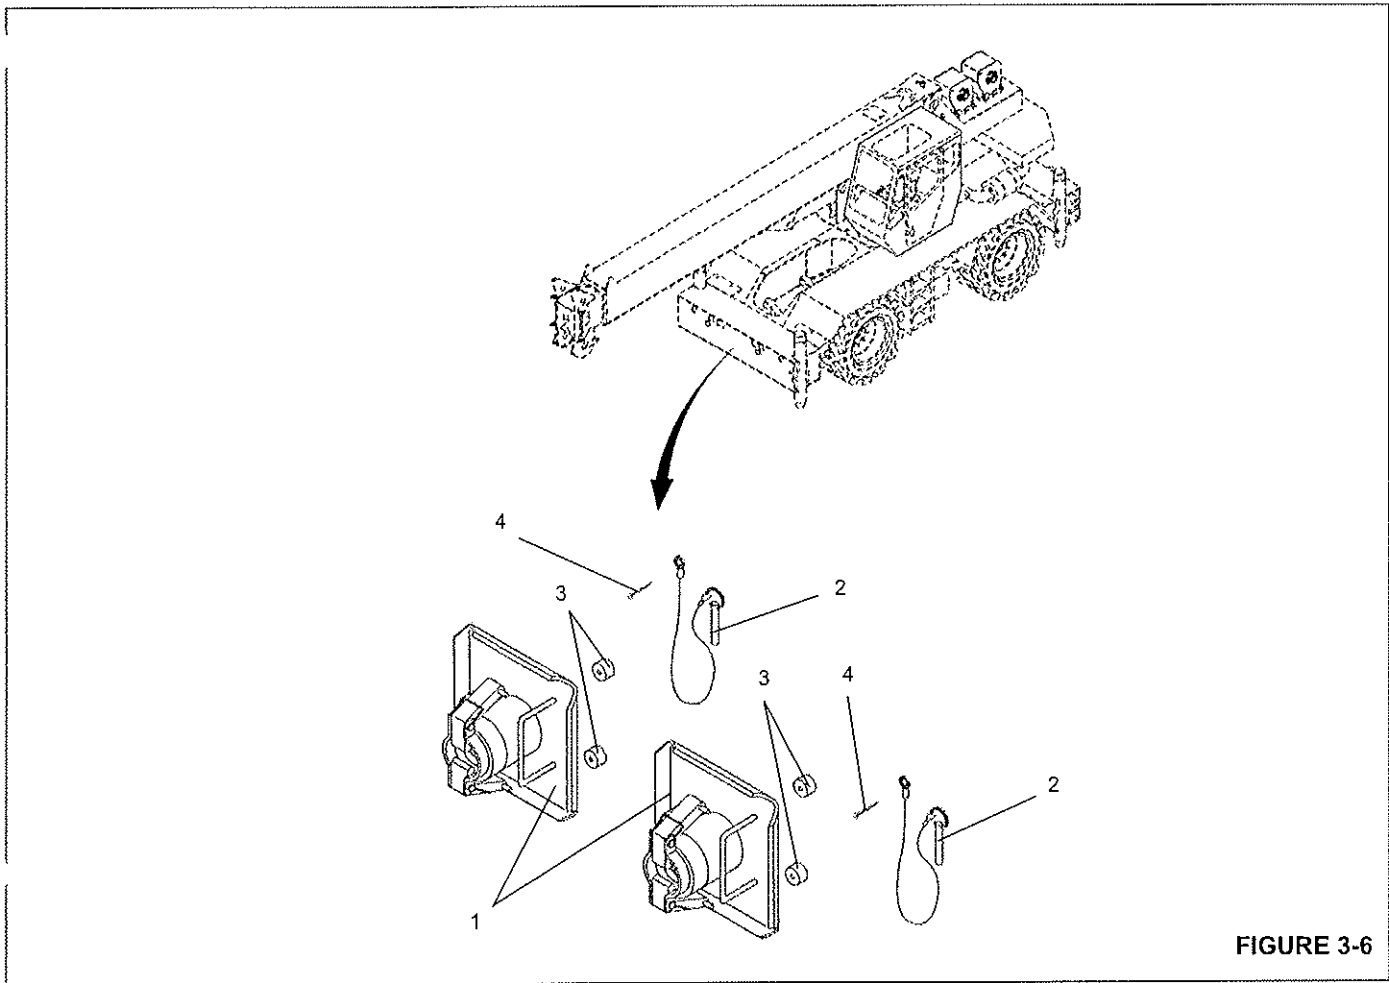

FIGURE 3-6
- After all outriggers have been fully retracted, stow the outrigger floats(Figure 3-6) .